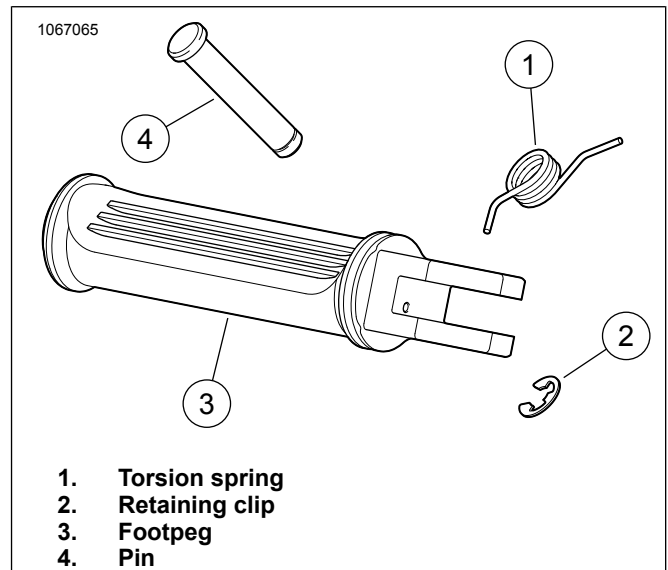

Figure 2. Rider Footpeg Torsion Spring Installation
1. See Figure 2. Your model motorcycle is equipped with a pin (4) and retaining clip (2), remove them and retain for future use. Save all hardware, including torsion spring (1), for installation of the new footpegs (3).